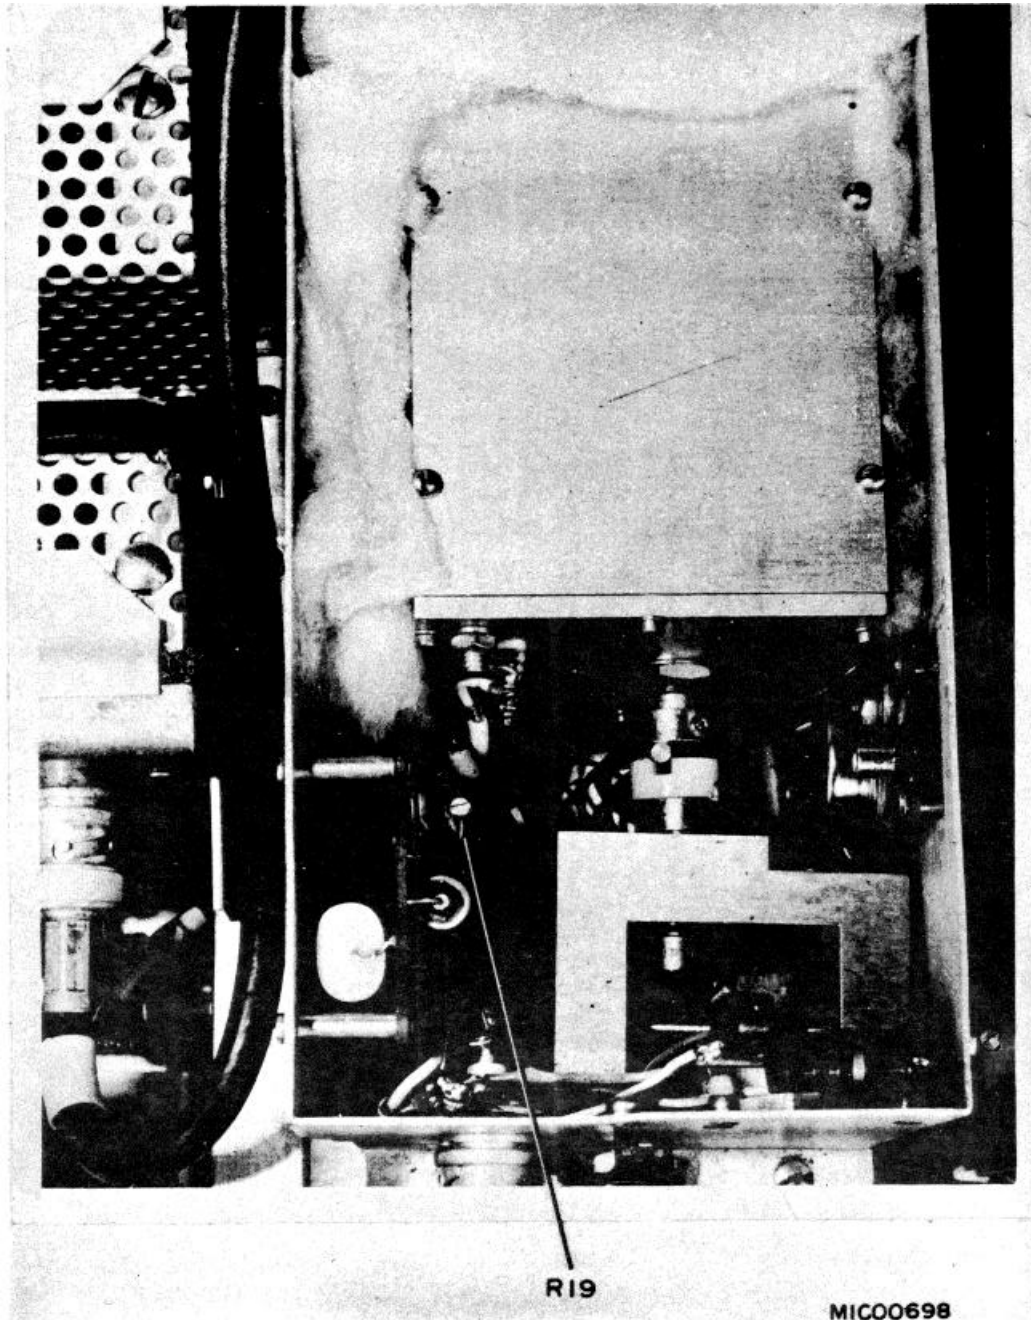

Figure 6-11. VCO box-top view.
- a. Connect a Simpson 260 set on the 50-volt range to TP6 (Fig. 6-8) and counter to 5 MC reference output. Remove cover of VCO box and adjust R19 (Fig. 6-11) maximum counterclockwise (10 turns).